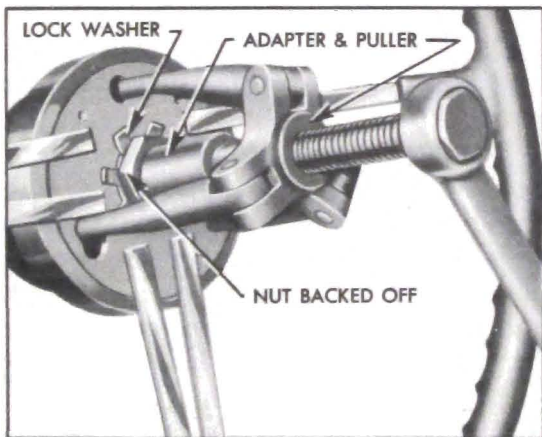

Figure 7-8—Removing Steering Wheel with Puller J 1566
4. Flatten the tab of lock washer, then back off steering wheel nut several turns but *do not remove nut*. Apply Puller J 1566 and adapter (fig. 7-8) and pull wheel back to nut. **NOTE:** *If wheel hub is very tight on shaft, apply a moderate strain with puller then tap end of puller screw to break hub loose from shaft without distorting wheel hub.* Remove puller, nut, and lock washer, then remove steering wheel.